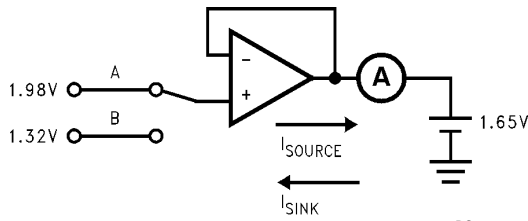

FIGURE 2.
**Note 1:** See Test Circuit (Figure 2)